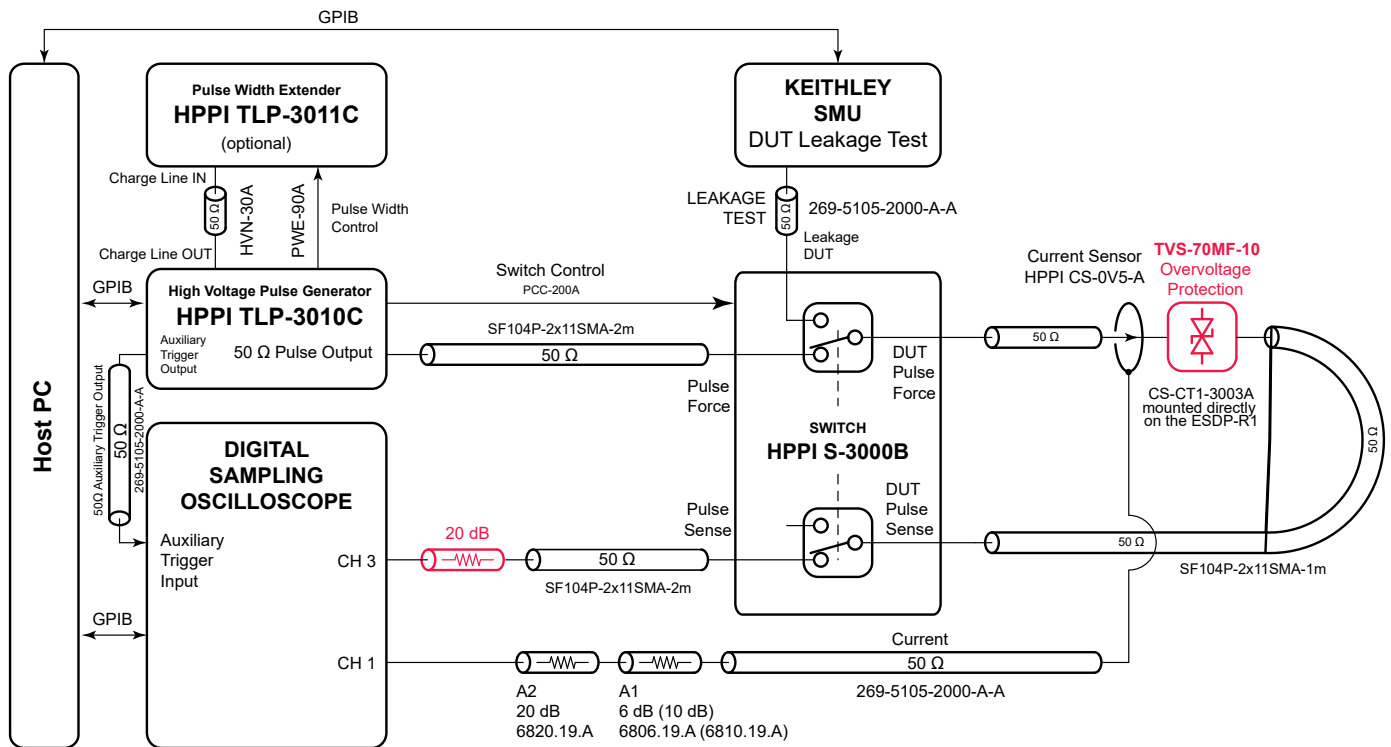

Figure 9: TLP test setup
- Connect the TVS-70MF-10 in the TLP test setup as shown in Fig. 9.
- Take care that the additional 20 dB attenuator is connected in front of the oscilloscope input channel 3 (see Fig. 9).
- Set-up the TLP system according to Fig. 9.